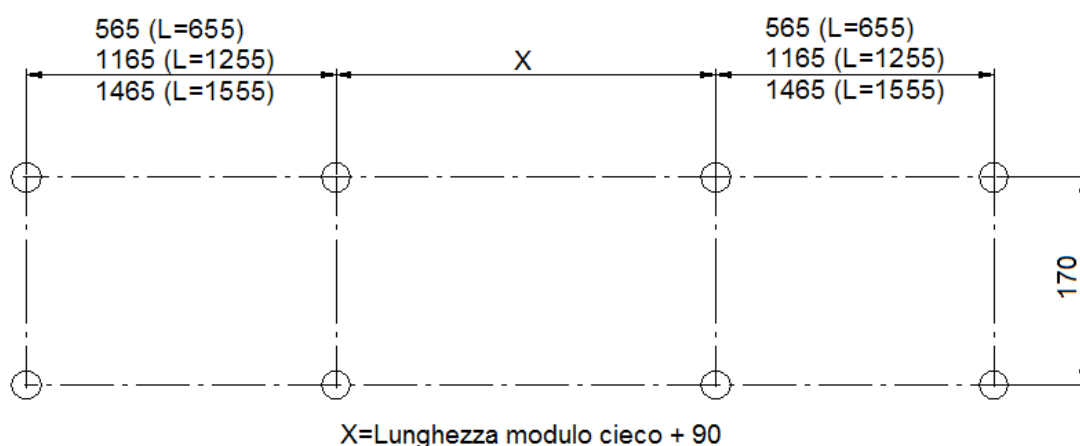

Fig.12
1. Drill the ceiling following the indications in Figure 12.